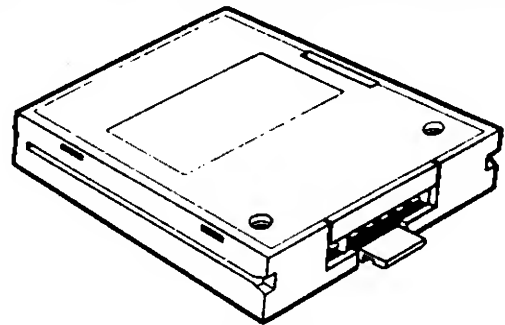

Figure 930-4 Battery Pack
5. Remove the battery case completely and turn it over so the tab is on the bottom, refer to Figure 930-4.